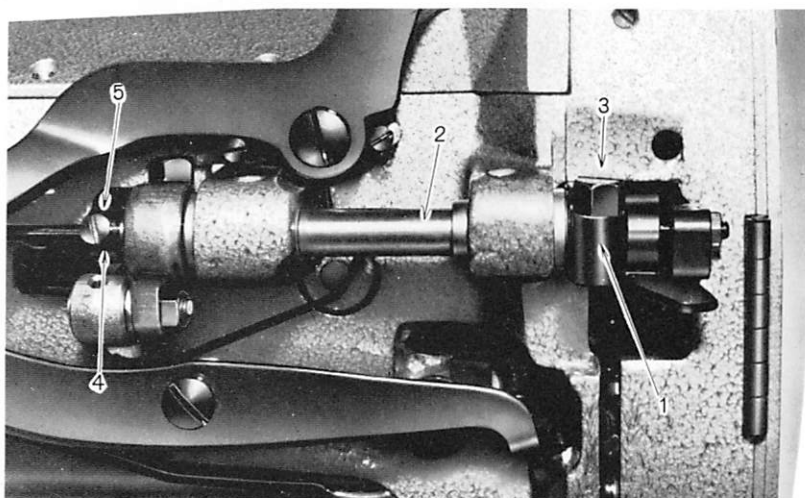
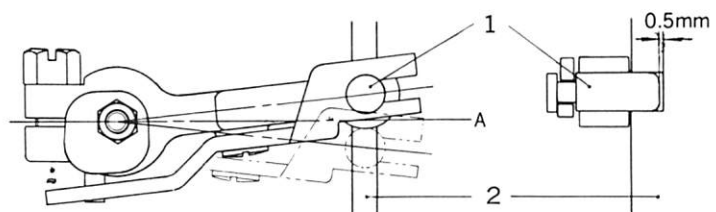

Fig. 36
Fig. 37
1. When fitting the knife oscillating crank, adjust the oscillating shaft (2, Fig. 36) so that the right end of the shaft comes out about 1 mm from the oscillating crank (1, Fig. 36), also, adjust the crank to actuate up or down at an equal distance starting from the horizontal line (A, Fig. 37).
Then tighten the screw (3, Fig. 36).
2. When fitting the stop collar, adjust the clearance between the end of the pin (1, Fig. 37) and the groove on the part (2, Fig. 37) is 0.5 mm, and in this position, set the stop collar (4, Fig. 36) closely to the oscillating shaft (2, Fig. 36), then tighten the collar set screw (5, Fig. 36).